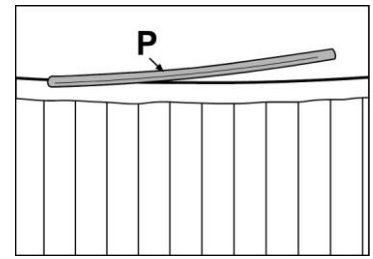

fig.25
2- Place the 2 profiles (already linked) against the metallic guide (M) that holds the wooden slats and make it match the joint of the metal guides (shown in the picture Fig. 25 with an arrow) with the centre of the plastic profile (P). This will make the link more solid.